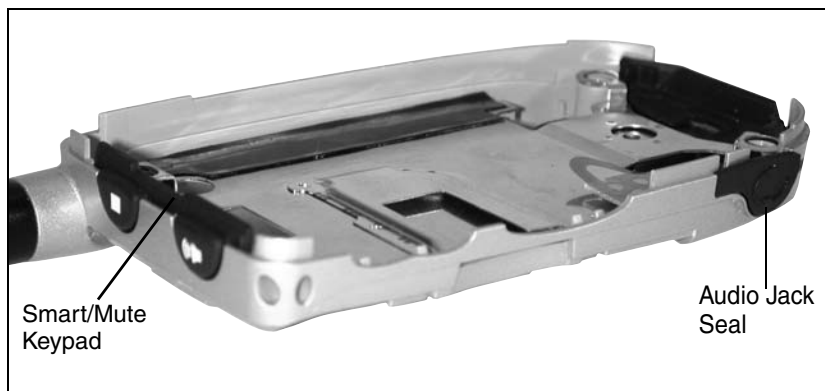

Figure 7-4.
1. Locate Smart/Mute Keypad and Audio Jack Seal in the Front Housing (see Figure 7-4). Grasp and pull pad or seal straight out.